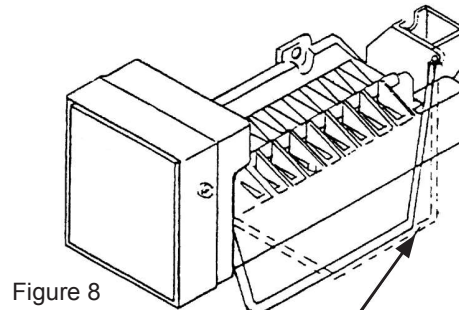

Figure 8
- The shutoff arm wire must be down in its lowest position for the ice-maker to operate. (See Figure 8).
- You may manually stop the ice-maker by raising the shut off arm to the locking position at the up most position. (See Figure 8).